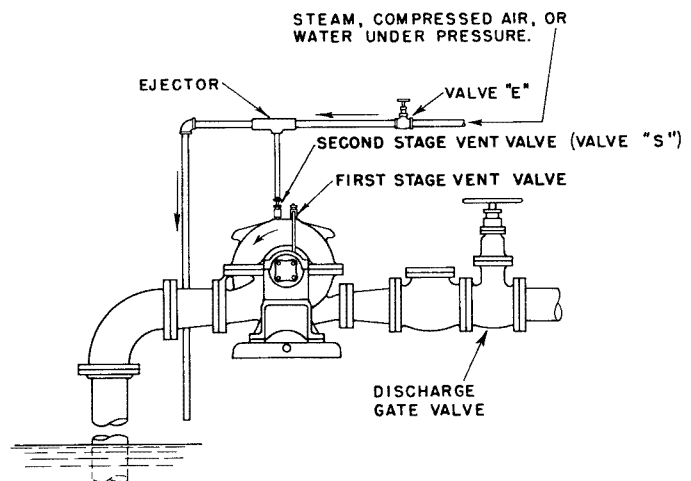

Figure 14
3. Priming by Ejector (See Fig. 14):